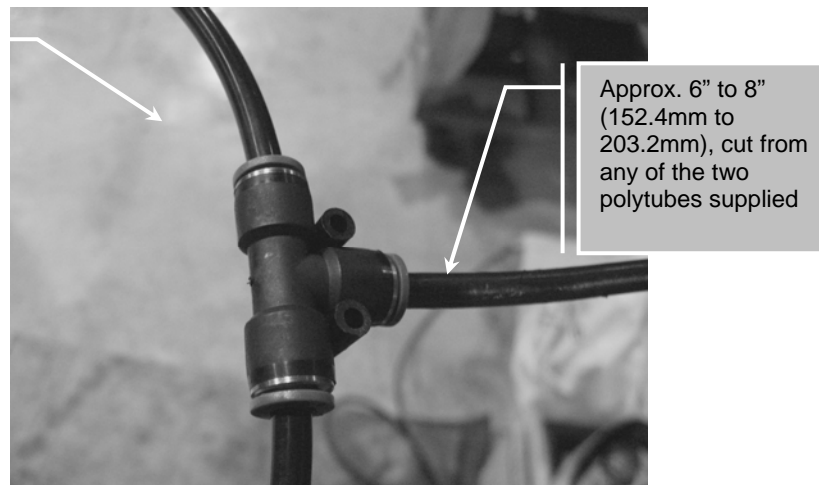

Figure 4 - "T" Connector
4. The 3/8" polytube return lines in the baseframes should be joined inside the console using a 3/8" "T" connector (**Figure 4**) from the hardware kit. To connect the "T" connector to the tank, cut off approximately 6" to 8" (152.4mm to 203.2mm) from either polytube supplied. Next, connect the other end of the tube to the pump connection marked T (Tank) (**Figure 5**)